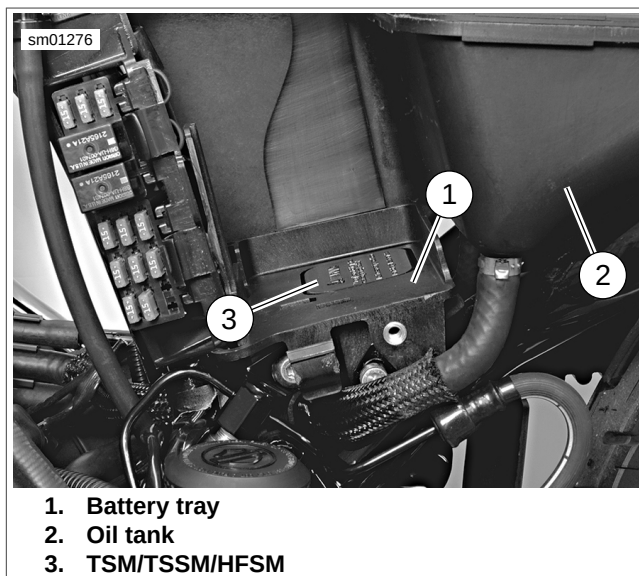
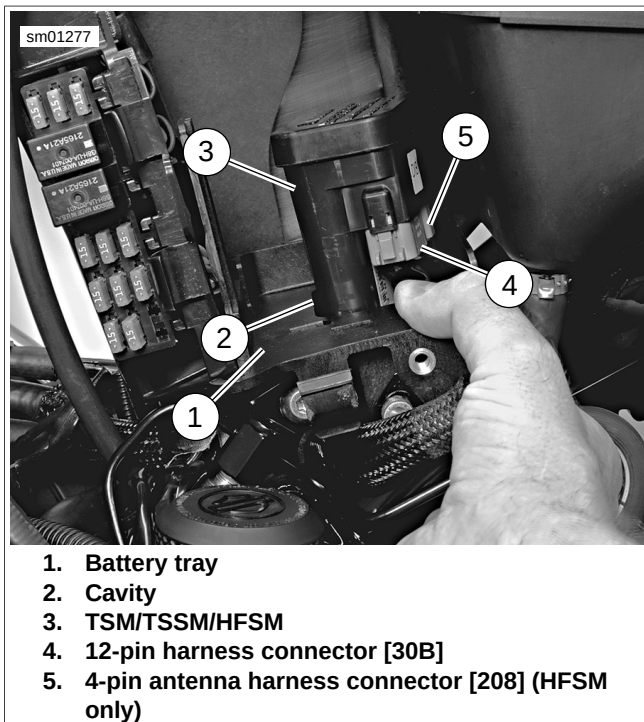

Figure 6-25. TSM/TSSM/HFSM Location: All Models (XL Shown)
Figure 6-26. TSM/TSSM Connectors: All Models (XL Shown)
See Figure 6-25. The TSM/TSSM/HFSM (3) is located in a cavity in the bottom of the battery tray (1).
3. See Figure 6-26. Reach under the battery tray (1) and push upward on TSM/TSSM/HFSM (3) to lift it out of its cavity (2).
4. Grasp top of TSM/TSSM/HFSM and unplug wiring harness connectors: 4-pin connector [208] (5) (HFSM only) has one latch. Unplug this connector first. Then unplug 12-pin connector [30B] (4).
1. See Figure 6-26. Pull wiring harness connector [208] (5) (HFSM only) and connector [30B] (4) up through cavity (2) in bottom of battery tray (1).
2. Position TSM/TSSM/HFSM (3) over cavity with connector(s) facing oil tank.
3. Plug 4-pin [208] (5) (HFSM only) and 12-pin [30B] (4) wiring harness connectors into TSM/TSSM/HFSM.
4. Lower TSM/TSSM/HFSM into cavity. See Figure 6-25. Make sure top of TSM/TSSM/HFSM is flush with bottom of battery tray.